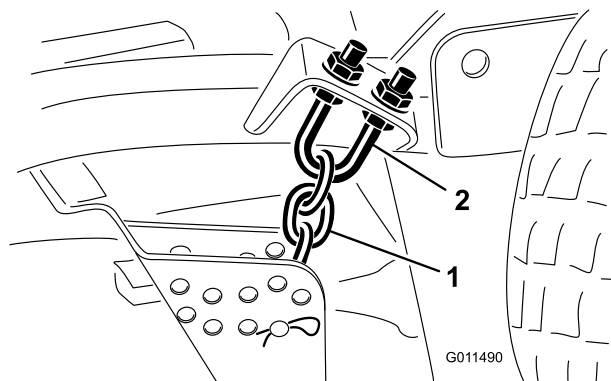

Figure 80
1. Loosen the jam nuts at the top or bottom of the height-of-cut chain U-bolt (Figure 80).